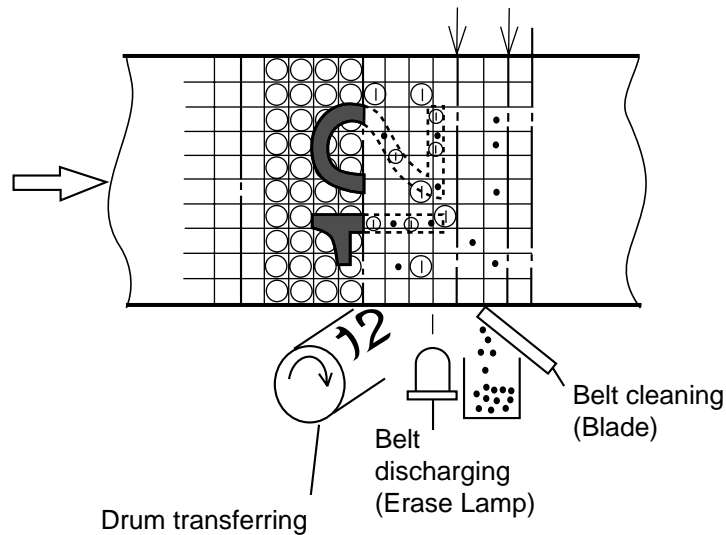

Fig.4-20
(2) Process of Belt Cleaning (Refer to Fig.4-20.)